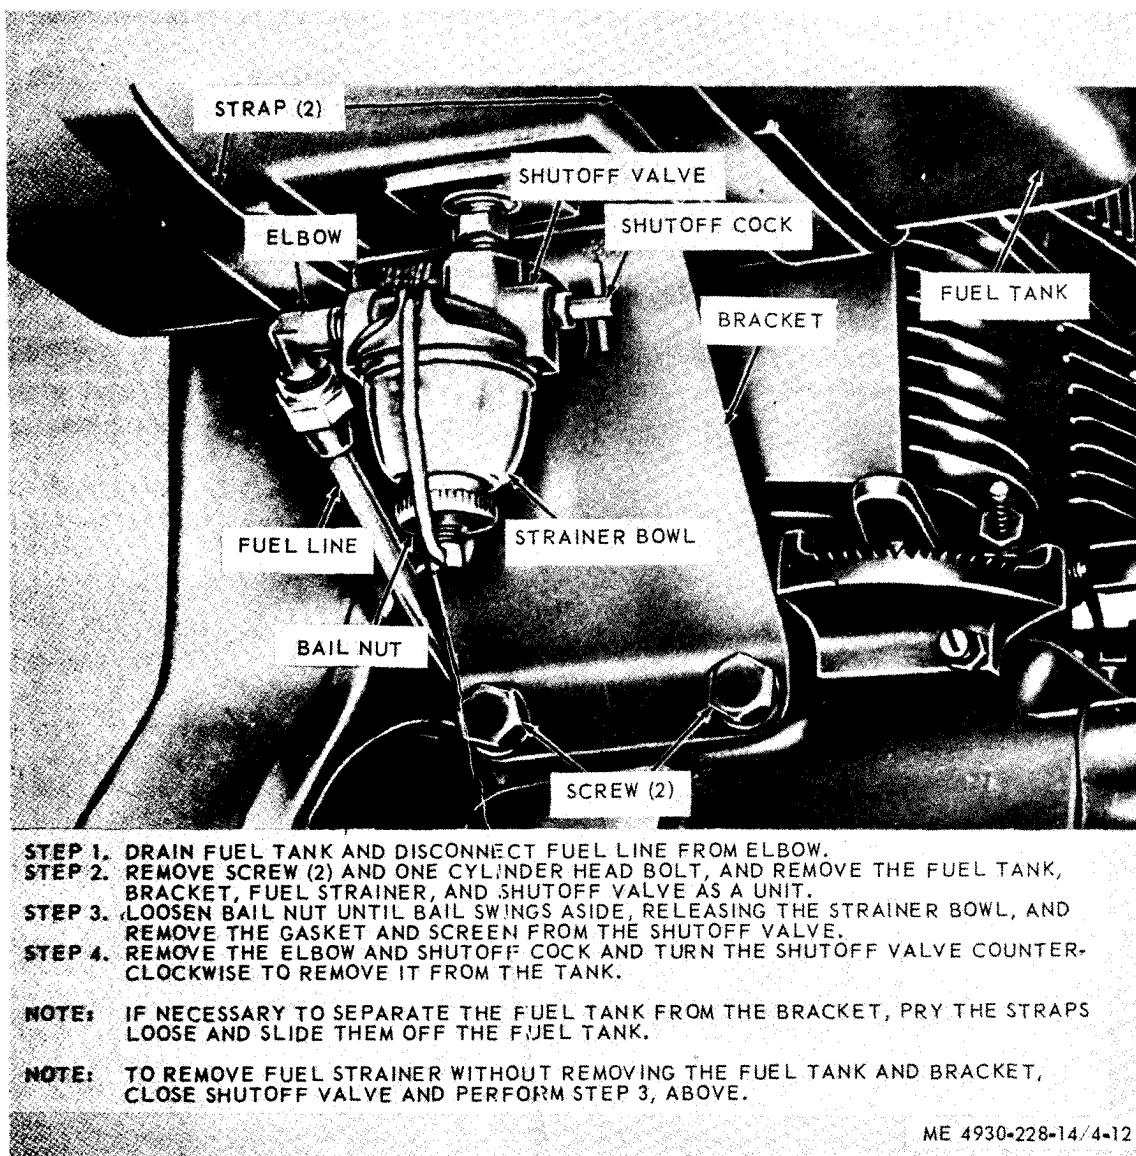

Figure 4-12. Fuel strainer, shutoff valve, fuel tank, and bracket, removal.
a. *Removal.* Refer to figure 4-12 and remove the fuel strainer and shutoff valve, fuel tank, and fuel tank bracket.
- (1) Clean and dry all parts thoroughly.
- (2) Inspect the fuel tank for cracks, breaks, distortion, and broken seams.
- (3) Inspect the bracket for cracks and distortion.
- (4) Inspect the fuel strainer and shutoff valve for defective threads, cracked strainer bowl distortion, and other damage.
- (5) Replace all defective parts.
c. *Installation.* Refer to figure 4-12 and install the fuel strainer and shutoff valve, fuel tank, and fuel tank bracket. (Installation procedure is reverse of removal).